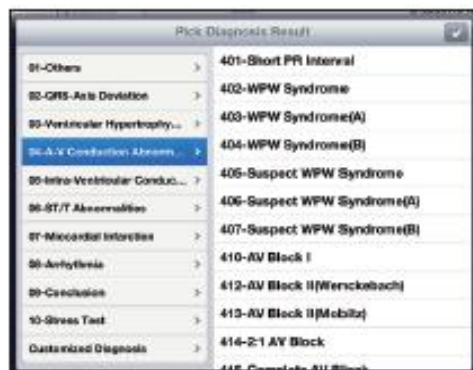

Fig. 5.7 Interpretations List
① Interpretations list: You can select the diagnostic terms from the list when you edit your ECG diagnosis (See Fig.5.7) .